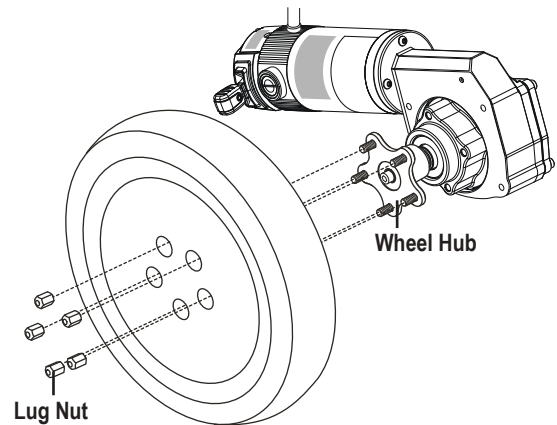

Figure 10. Quantum R-TRAK Drive Wheel
4. Remove the five (5) lug nuts from the wheel hub. **See figure 10.**